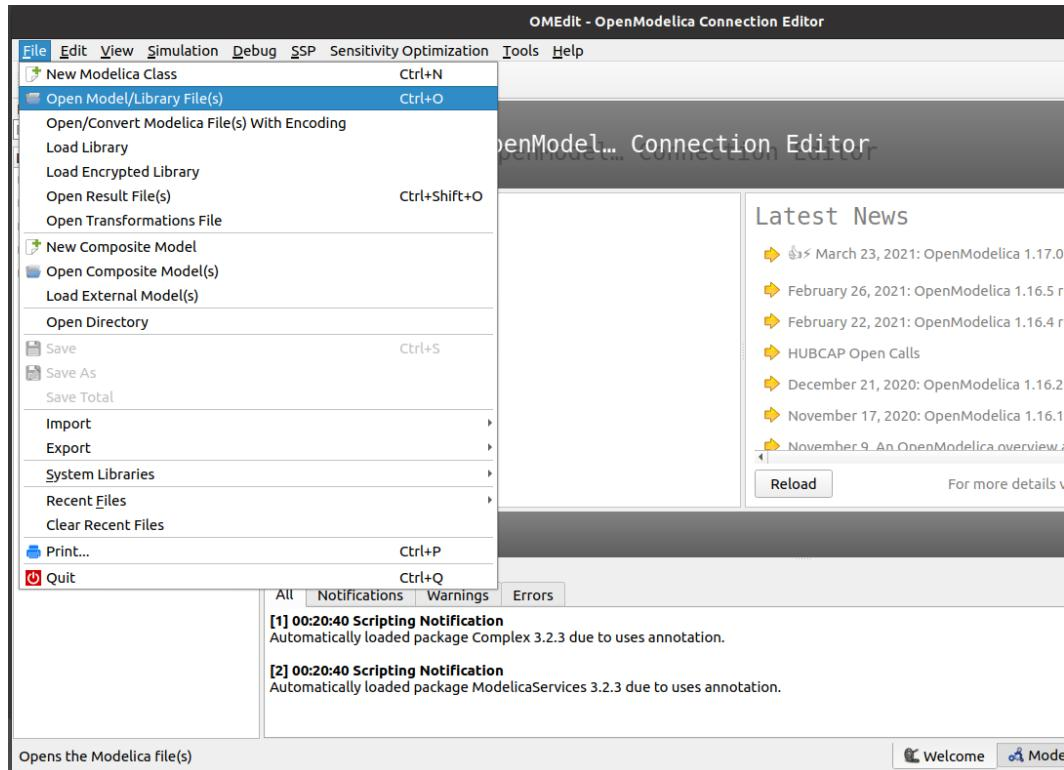

Figure 3.34: Opening a model in OMEdit
The files or models in OpenModelica have ‘.mo’ extensions. Though there are several ways to simulate or run an OpenModelica model, we will execute the models by utilizing the user interface of OMEdit. To open a model in OMEdit, go to the menu bar of OMEdit and click on File -> Open Model/Library File(s), as shown in Fig. 3.34. Then, select the desired model (with ‘.mo’ extension) and click Open. The names of tabs in this book have been mentioned according to OpenModelica 1.17.0. You might observe a bit of difference in these names while working with other versions of OpenModelica.
2. After launching, we have to load OpenModelica-Arduino toolbox. To do so, go to the menu bar of OMEedit. Click on **File** and then click on the **Open Model/Library File(s)** option as shown in Fig. 3.34.